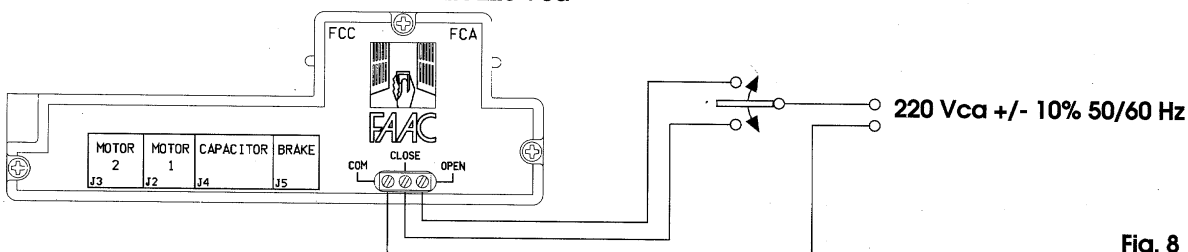

Fig. 8
**ATTENTION: LA COMMANDE ELECTRIQUE DE LA FIG. 8 EST ADMISE UNIQUEMENT POUR UNE UTILISATION DANS UN LIEU INTERNE.**